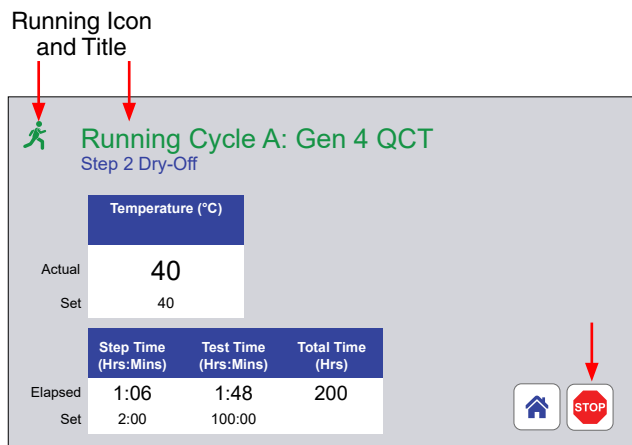
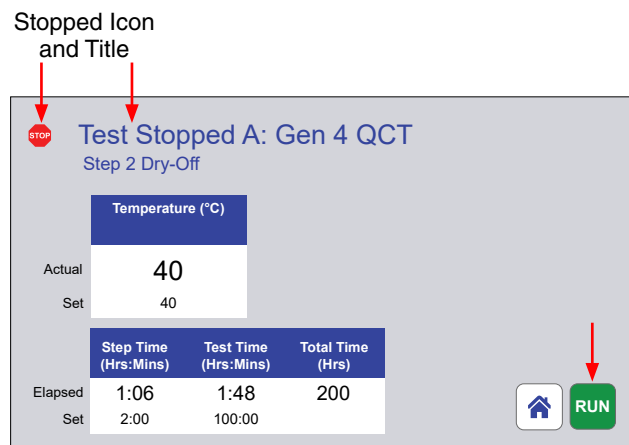

Figure 8.3b: Status icon when test running.
Figure 8.3c: Status icon and title when test stopped.
- A colored icon and title at the top of the screen indicate the overall status of the test: running or stopped (Figure 8.3b, Figure 8.3c).